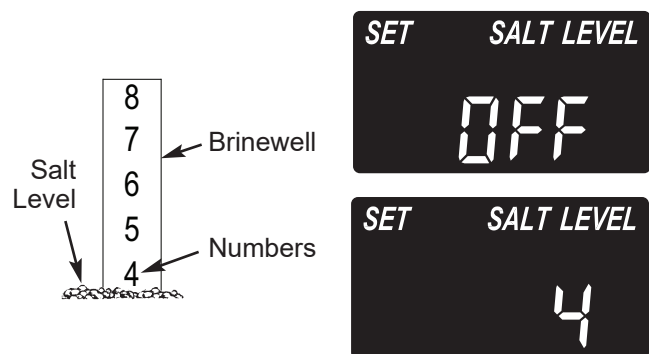

FIG. 23
2. The salt level scale, on the brinewell inside the tank, has numbers from 0 to 8 (see Fig. 23). Observe the highest number the leveled salt is at, or closest to.